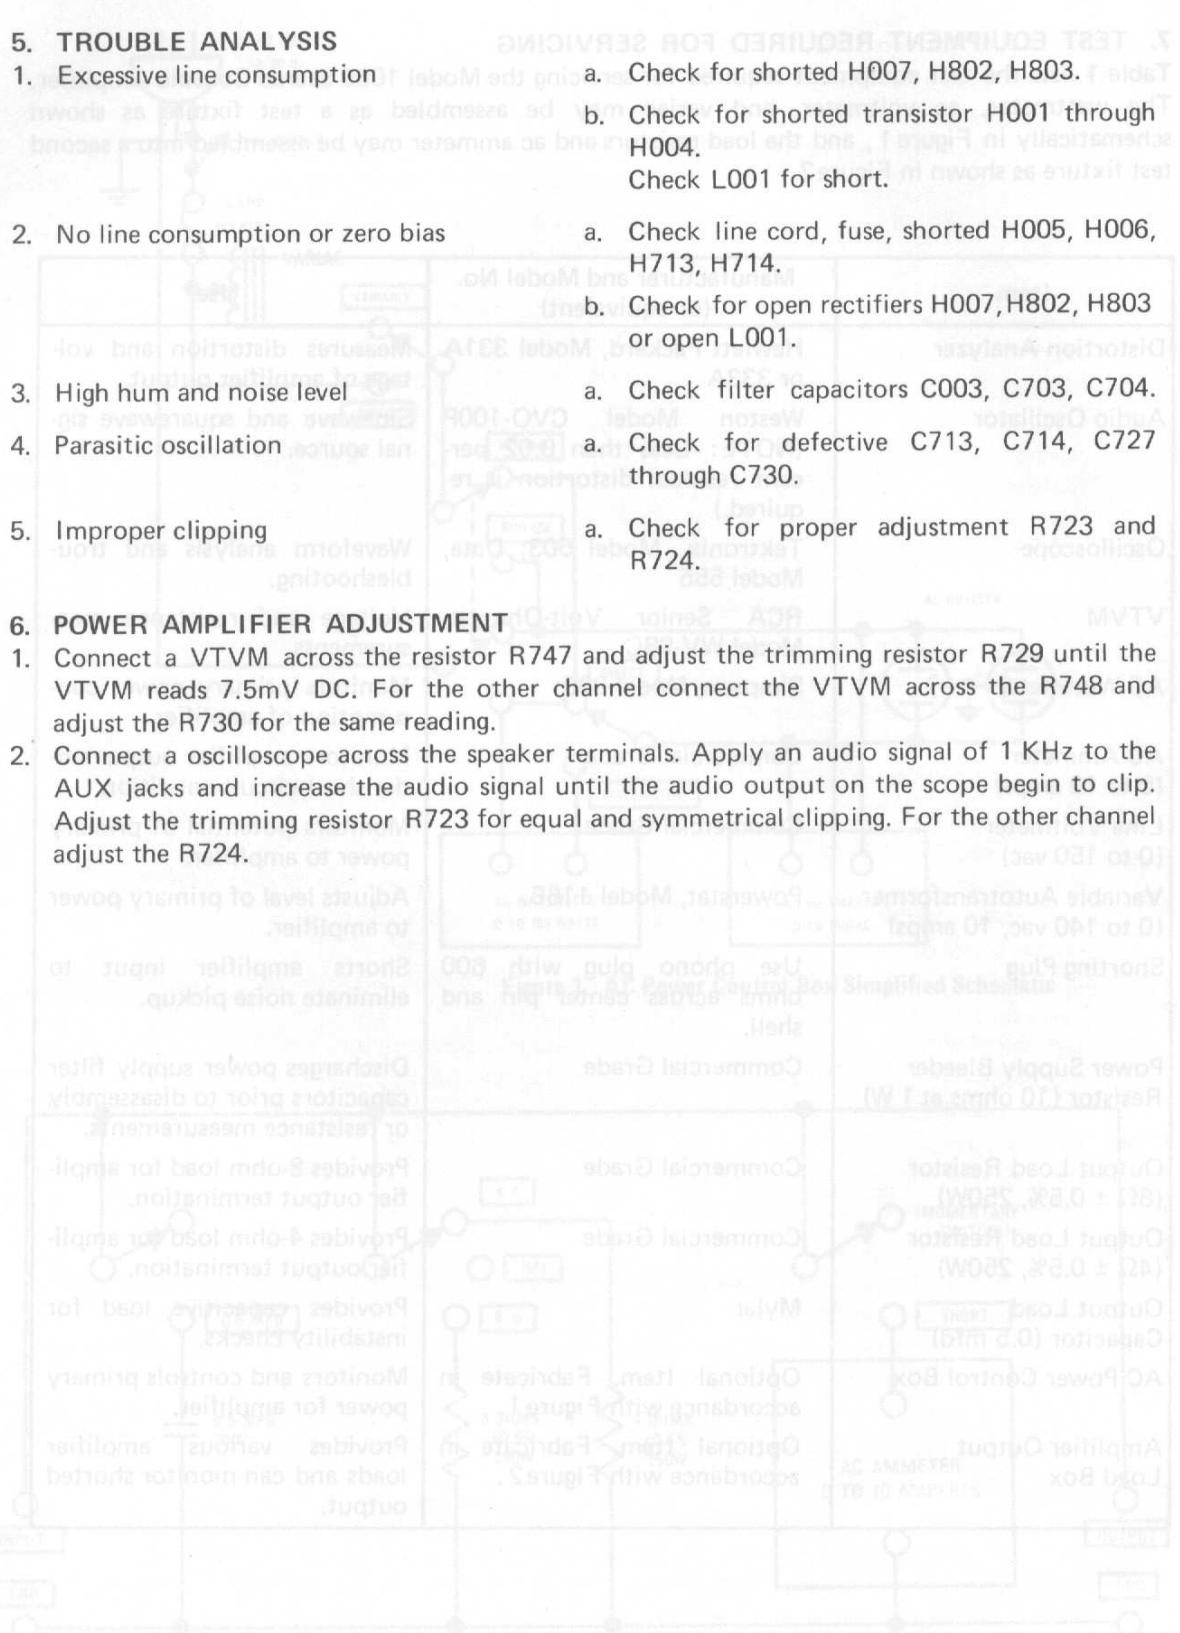
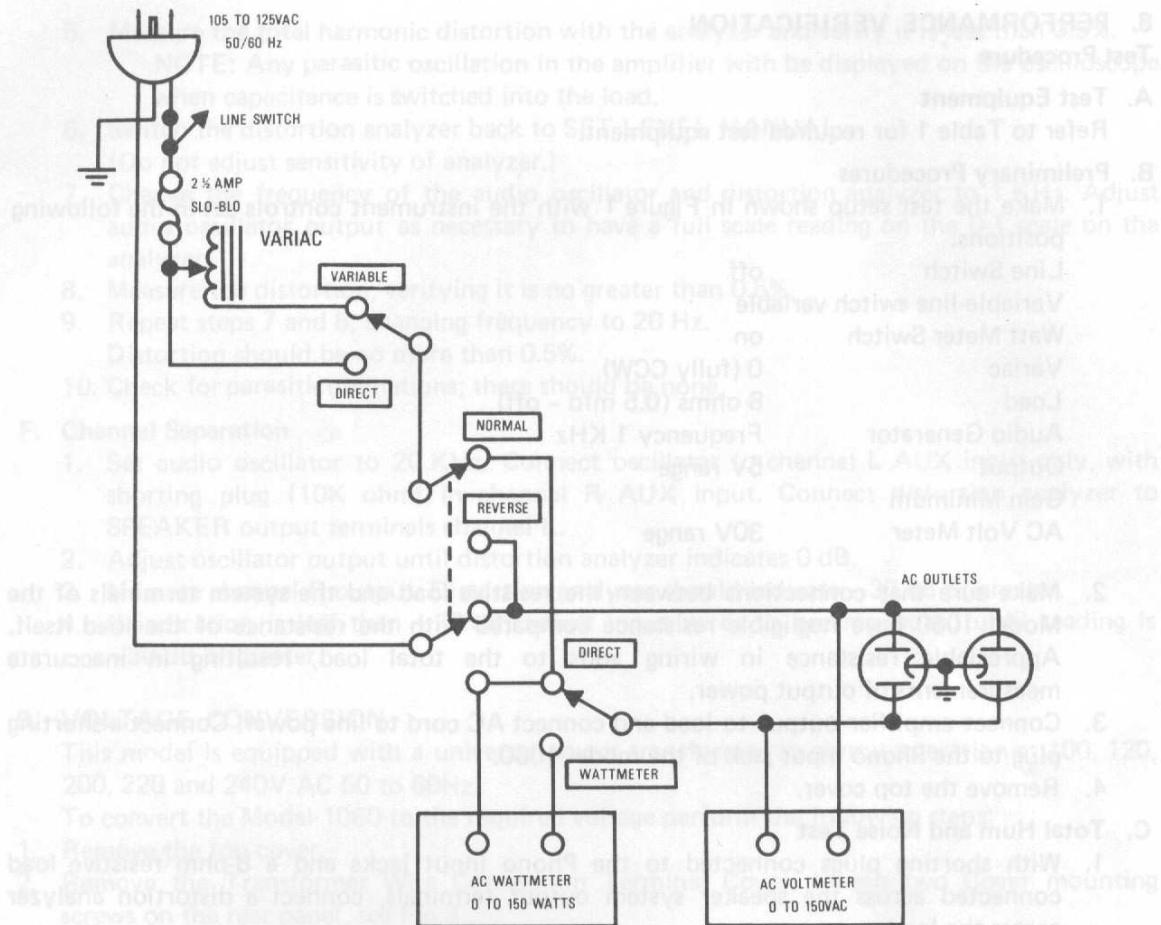

Figure 2. Amplifier Output Load Box Simplified Schematic
Figure 1. AC Power Control Box Simplified Schematic
Table 1 lists the test equipment required for servicing the Model 1060 Stereo Console Amplifier. The wattmeter, ac voltmeter, and variac may be assembled as a test fixture as shown schematically in Figure 1, and the load resistors and ac ammeter may be assembled into a second test fixture as shown in Figure 2.
| AC Power Control Box | Optional Item. Fabricate in accordance with Figure 1. | Monitors and controls primary power for amplifier. |
1. Make the test setup shown in Figure 1 with the instrument controls set in the following positions: